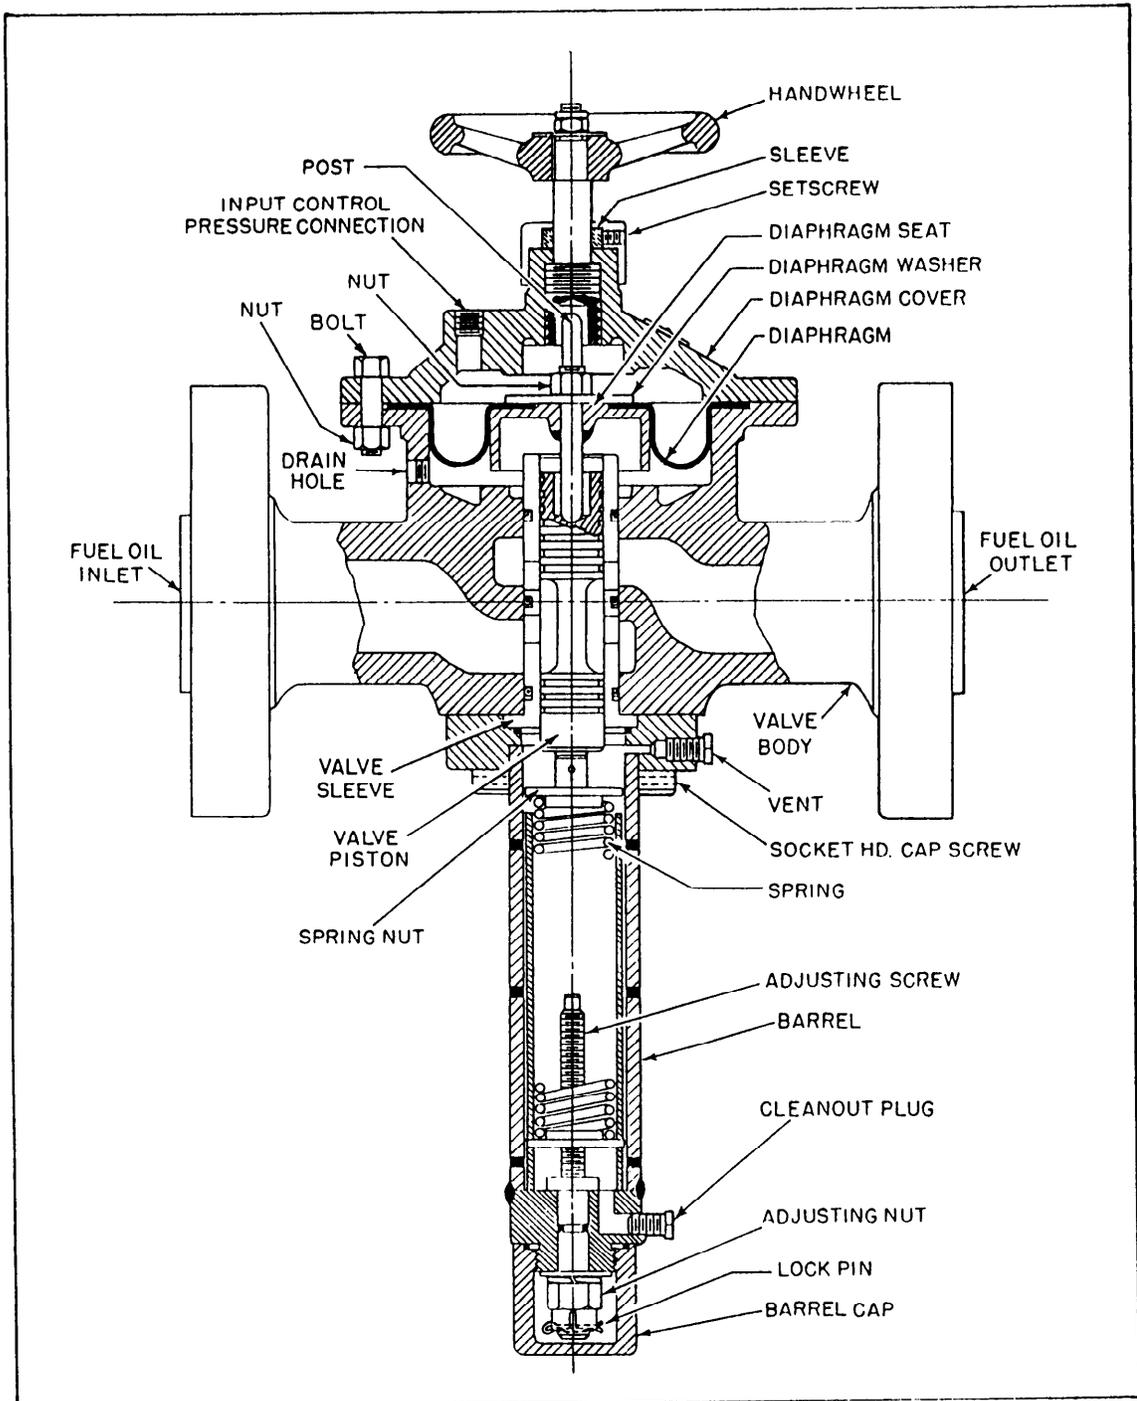

Figure 17-19.—Fuel-oil control valve
**FUEL-OIL CONTROL VALVE.**—The fuel-oil control valve (fig. 17-19) receives the signal from the characterizing relay. This signal acts on the diaphragm and post, and changes the position of the piston, which in turn causes changes in oil flow through the fuel oil valve.